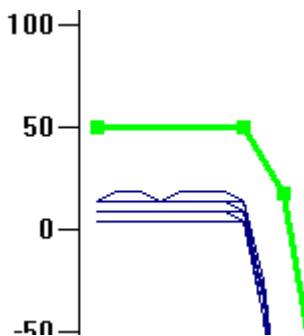
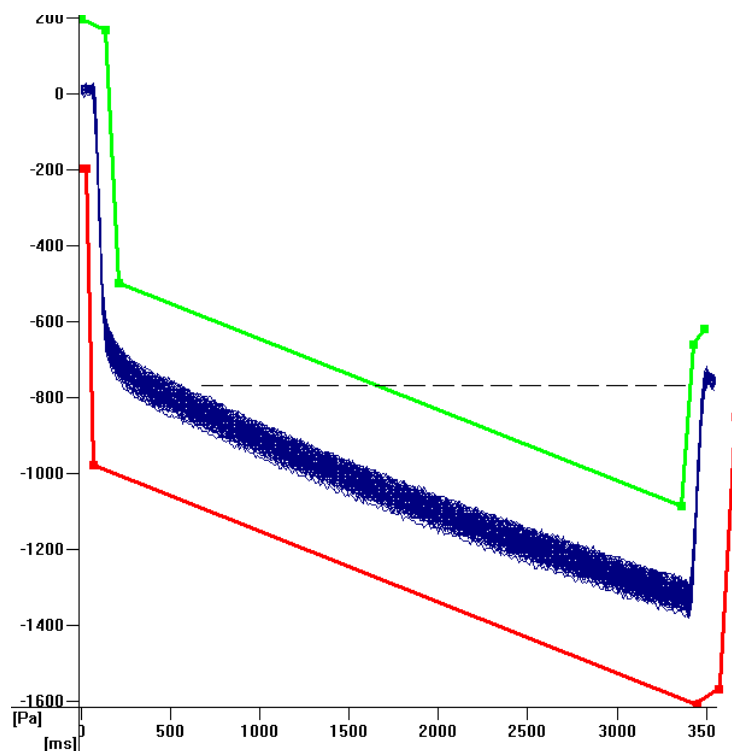

Fig. 22: Upper Limit Curve tolerance band
Fig. 23: TADM tolerance bands for an aspiration step
- It is recommended that you set the first curve point between the 0 and 100 Pascal value (Figure 22). A higher value may be required if wet tips are used for the aspiration (Figure 23). Place the next curve points where the TADM curves change directions. Special attention should be paid to the tolerance band at the beginning and the end of the pipetting step. Here, the tolerance band should follow the actual pressure curve rather closely, while the distance between curves and tolerance band should be wider during the remaining phase of the pipetting step.
- Make sure that the upper TADM tolerance band dips below the broken line shown in Figure 23. This line represents the pressure in the channel at the end of the aspiration step.